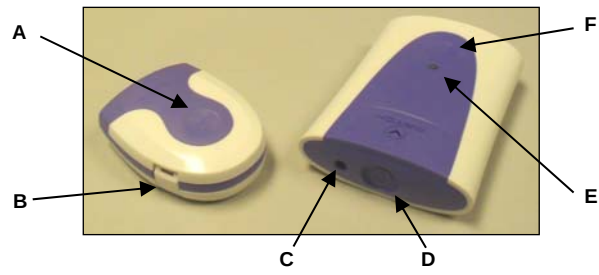

Figure 14: Device Labelling
1. Open the Vpod device using the release clips (labelled 'B' in Figure 14 below).
Figure 14 indicates V Patch device labelling.